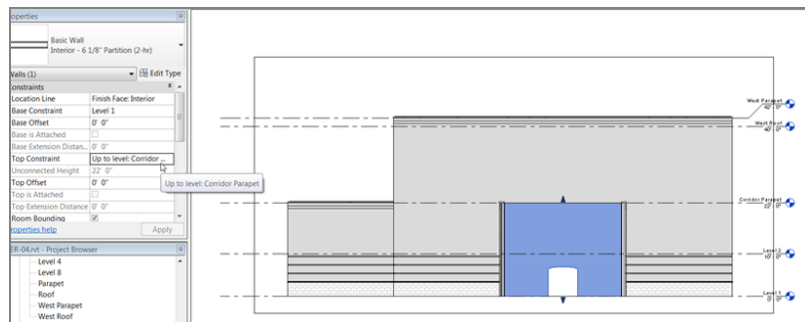

FIGURE 3.51: Choosing the properties to change a wall's constraints is becoming old hat!
2. In the Properties dialog, change Top Constraint to Up To Level: Corridor Parapet, as shown in Figure 3.51.